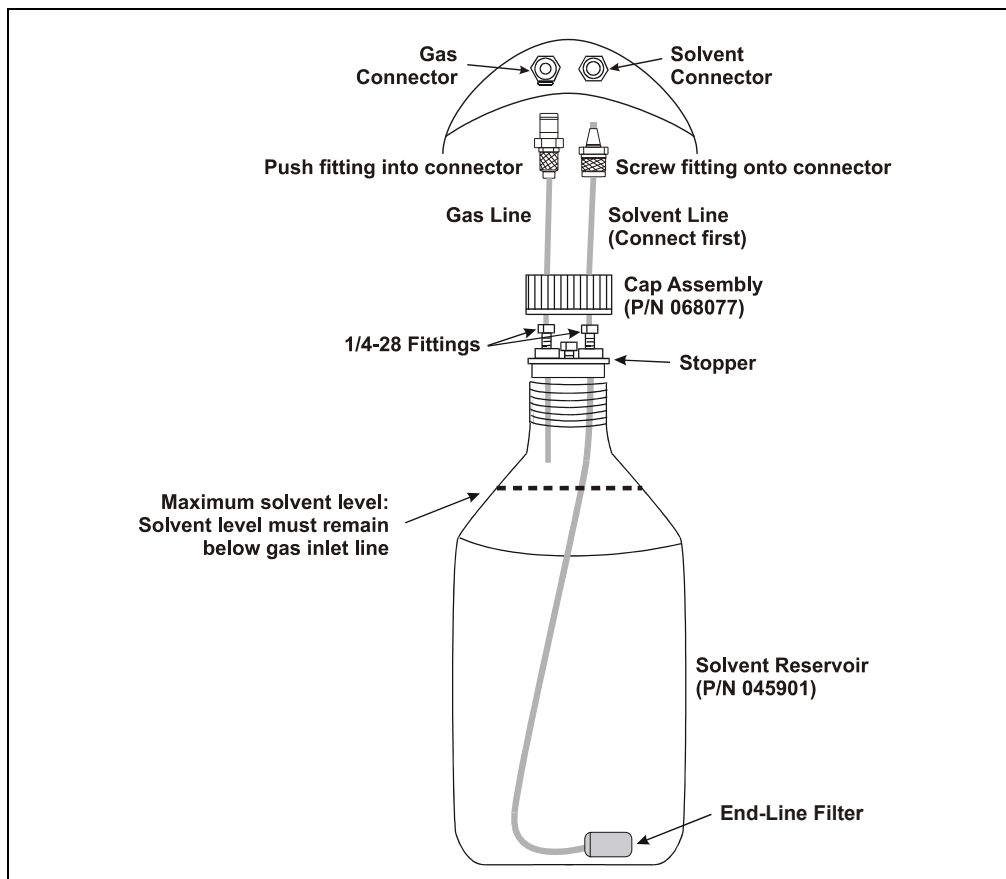

Figure B-5. Solvent Reservoir Connections (Top View)
2. Fill the solvent reservoir with prepared solvent to the level indicated in Figure B-5.
4. Insert the solvent outlet line extending from the underside of the cap assembly (P/N 051977) into the solvent reservoir (see Figure B-5). Make sure the end-line filter rests on the bottom of the bottle.